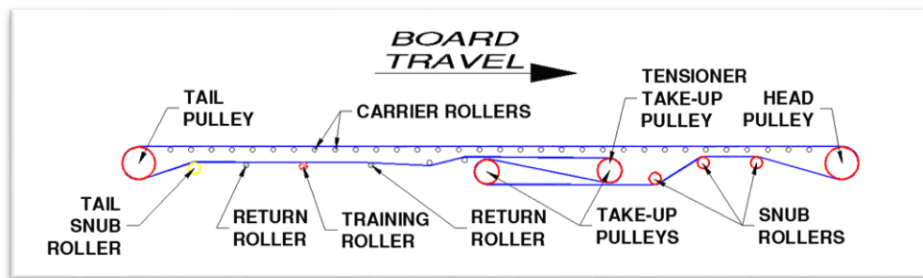
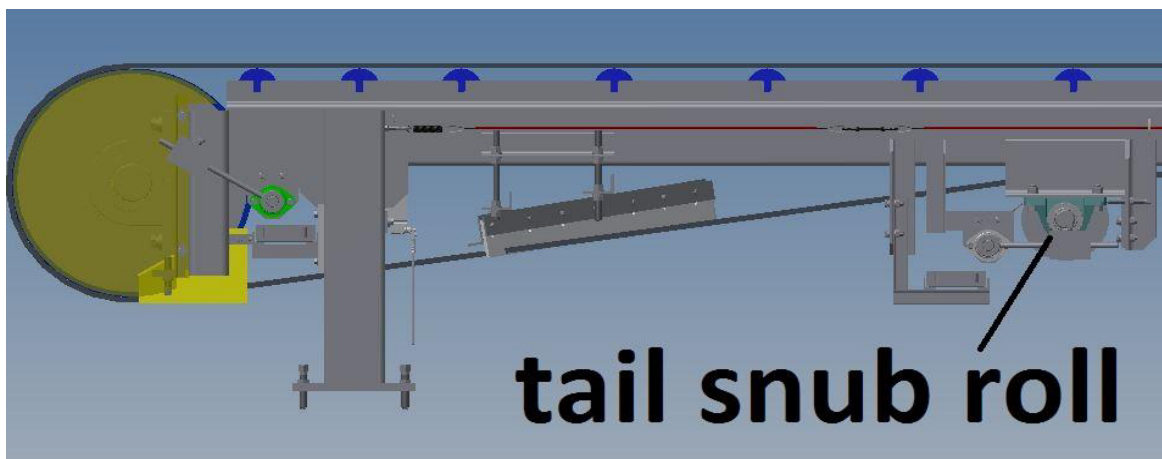

Figure 9: The major pulleys are not to be adjusted to track the belt
Figure 17 – Tail Pulley Snub Roller
- Head pulley, tail pulley, take-up pulleys and snub pulleys are all parallel and level. **The major pulleys are not to be adjusted to track the belt.** See the red rollers in Figure 9. 95% of tracking a board belt is controlled by the carrier rollers and the return rollers mounted on the pedestals.
The goal is to have the return belt as centered as possible feeding into the training rollers and into the tail pulley snub roller. The snub roller feeding the tail pulley (see figure 17) is very effective in tracking the belt but it is important to have the complete belt as straight and centered as possible in order to have a stable belt. Using the tail pulley snub roller should be the last adjustment used to track a belt on the return side. It would be best to have the tail snub roller square and level like all the other major pulleys see figure 9.